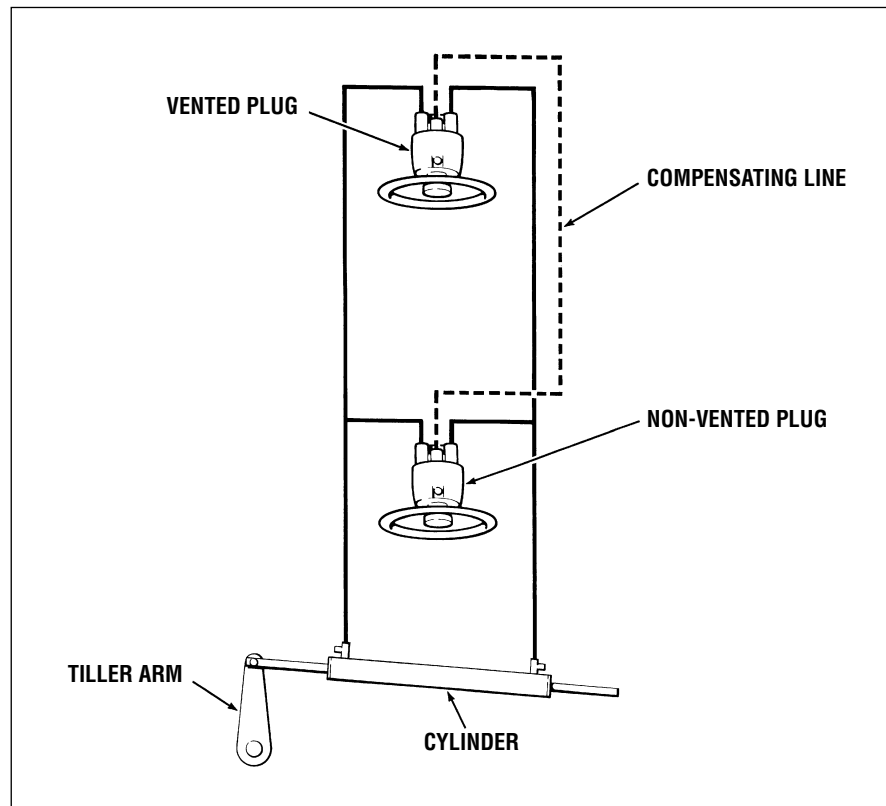

Figure 23. Dual Station.
- 1 Refer to figure 23 on page 20 for hose/tube to fitting connection.